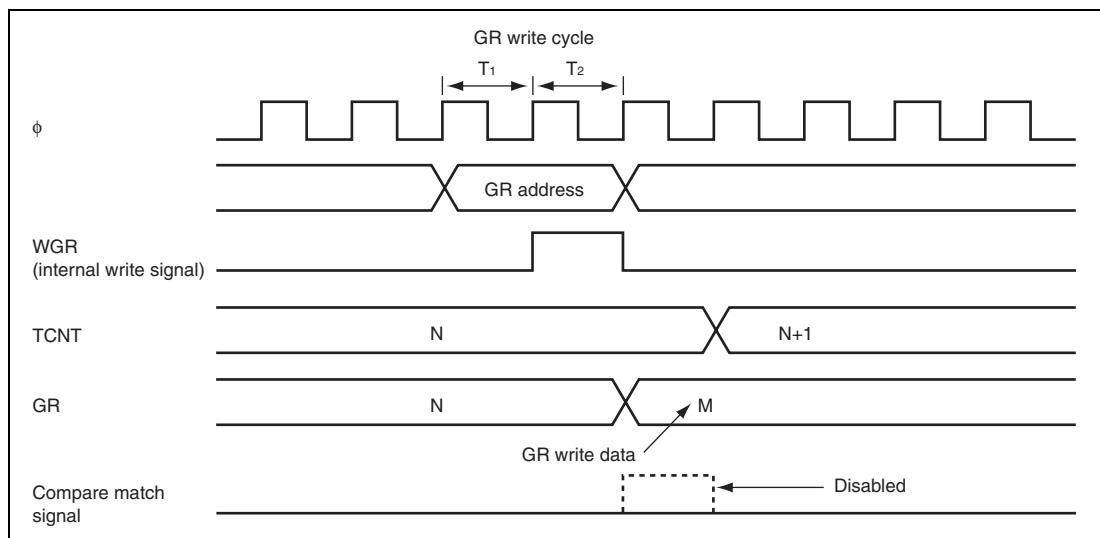

Figure 12.54 Contention between GR Write and Compare Match
3. Contention between GR Write and Compare Match: If a compare match occurs in the  $T_2$  state of a GR write cycle, GR write has priority and the compare match signal is disabled. Figure 12.54 shows the timing in this case.